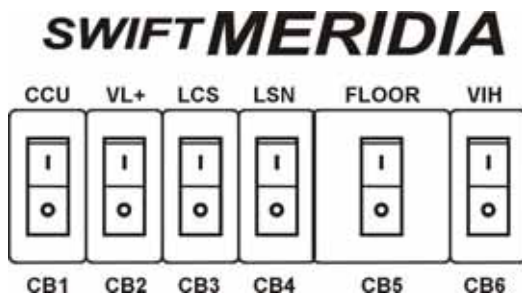

Figure 2-1
2. Verify all the circuit breakers on the front panel (located at the top of the controller) are in the off position. [See Figure 2-1.]